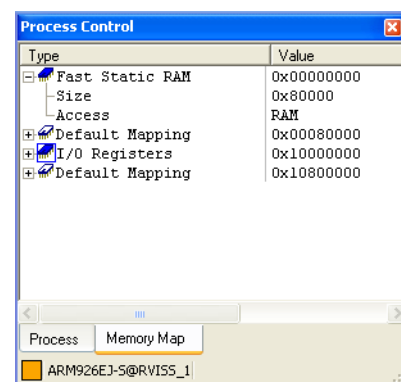

Figure 4-32 New memory block in the Memory Map tab
4. Select **Memory Map Tab** from the **View** menu to open the Process Control view with the **Memory Map** tab selected. Figure 4-32 on page 4-53 shows an example: